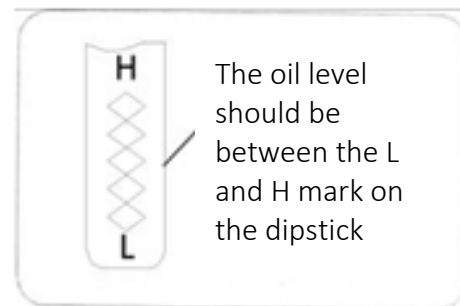

Fig. 29
4. Unscrew the oil plug with the dipstick and read the oil level on the stick. If the oil level is below the "L" (LOW) mark, slowly add oil to reach the "H" (HIGH) mark, see Figure 29.
3. Clean the area around the oil drain plug, see Figure 29.